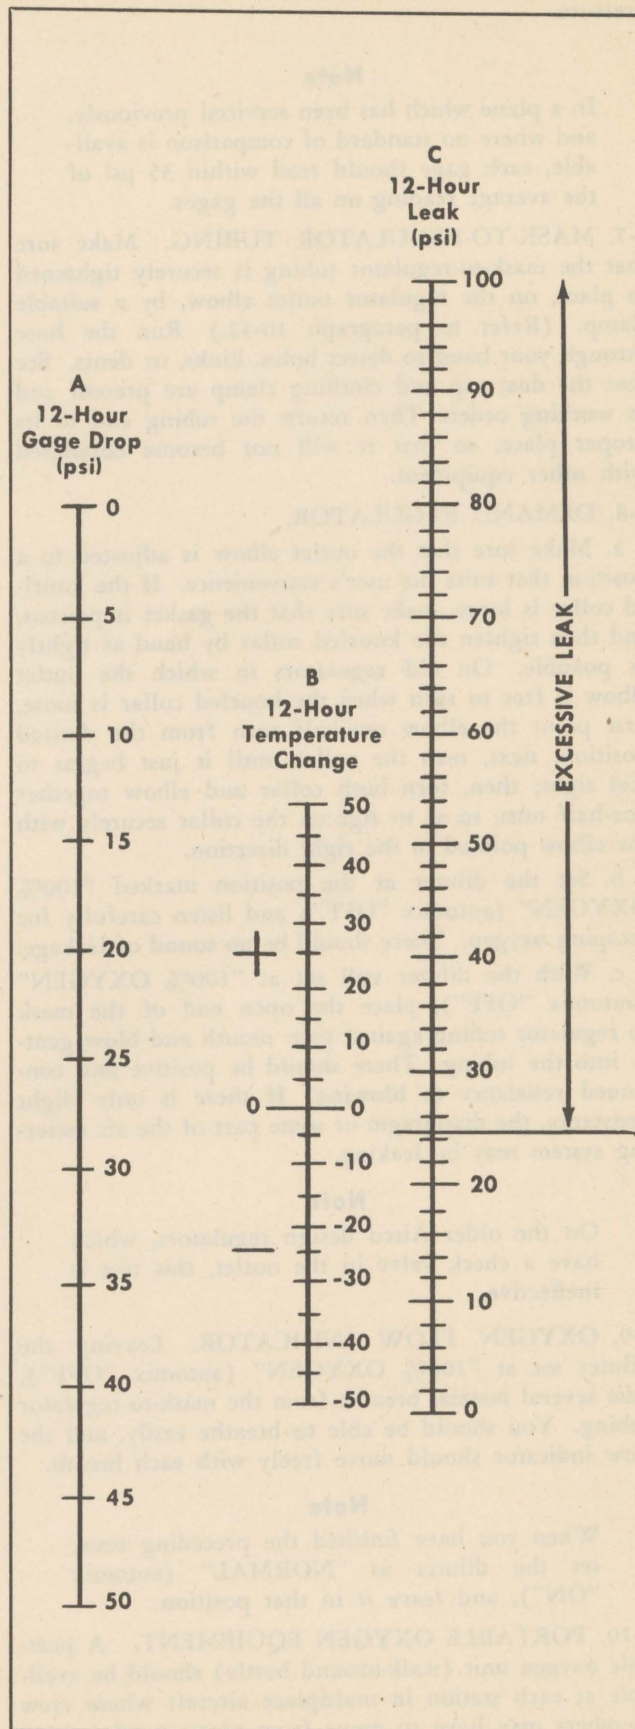

Figure 9-1. Oxygen System Leak Chart
e. Read the gage pressures again, and subtract the second reading from the first reading on the same gage. This gives the 12-HOUR GAGE DROP on scale A. (See figure 9-1.)